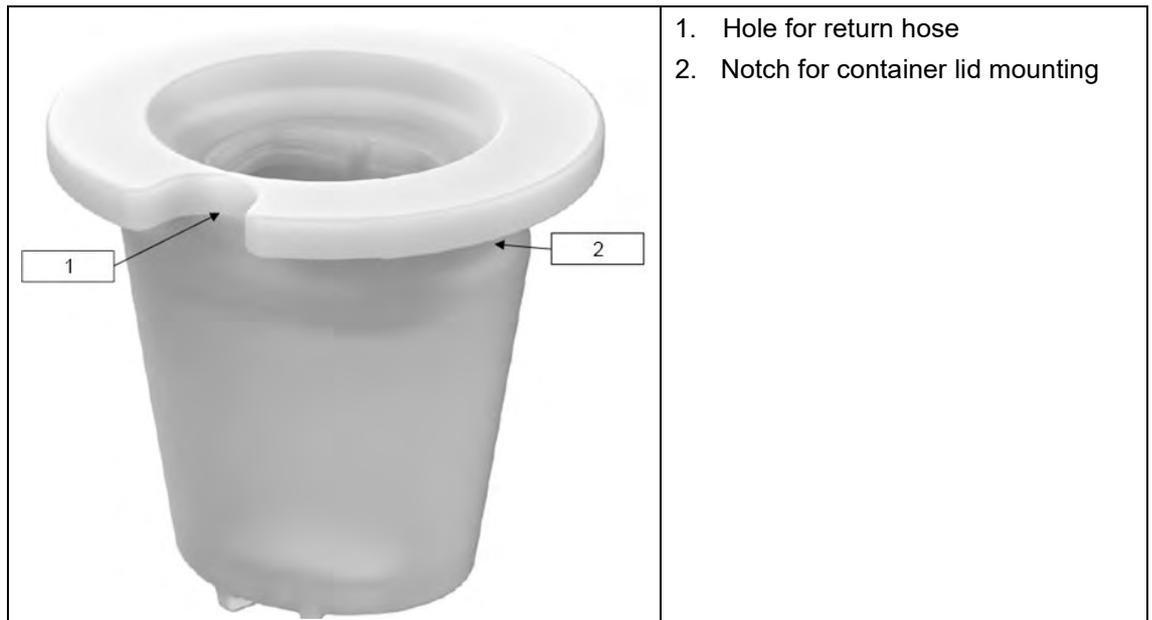

Figure 7
Once the connection is established, the eloLance can be placed directly into the container and fixed with the clamping cone (Figure 7). For larger container openings, a hole with a diameter of $\varnothing 30+1$ mm can be made in the container lid. The notch in the clamping cone (Figure 7, item 2) serves to stabilise the eloLance in the container and can be screwed onto the container together with the container lid. (See chapter 5.4.4 Mounting the container lid on the clamping cone).
The clamping cone (Figure 7) has a multifunctional design and can be used in combination with a conventional container lid to mount the eloLance.
- ▶ Hold the clamping cone and push on the container lid until it is securely seated in the circumferential notch (Figure 7, item 2) of the clamping cone.
- *The hole on the clamping cone (Figure 7, item 1) serves as a hose feed-through.*
Prerequisite: Mounted container lid on clamping cone (Figure 7).